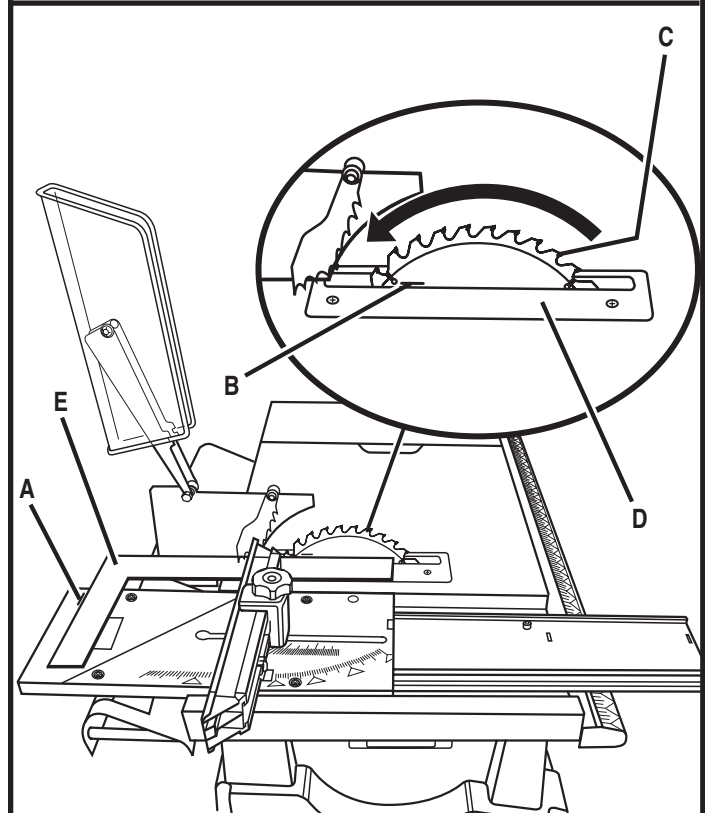

Fig. 42
- Remove framing square and slide miter table to the rear of miter base as far as it will go. *See Figure 42.*